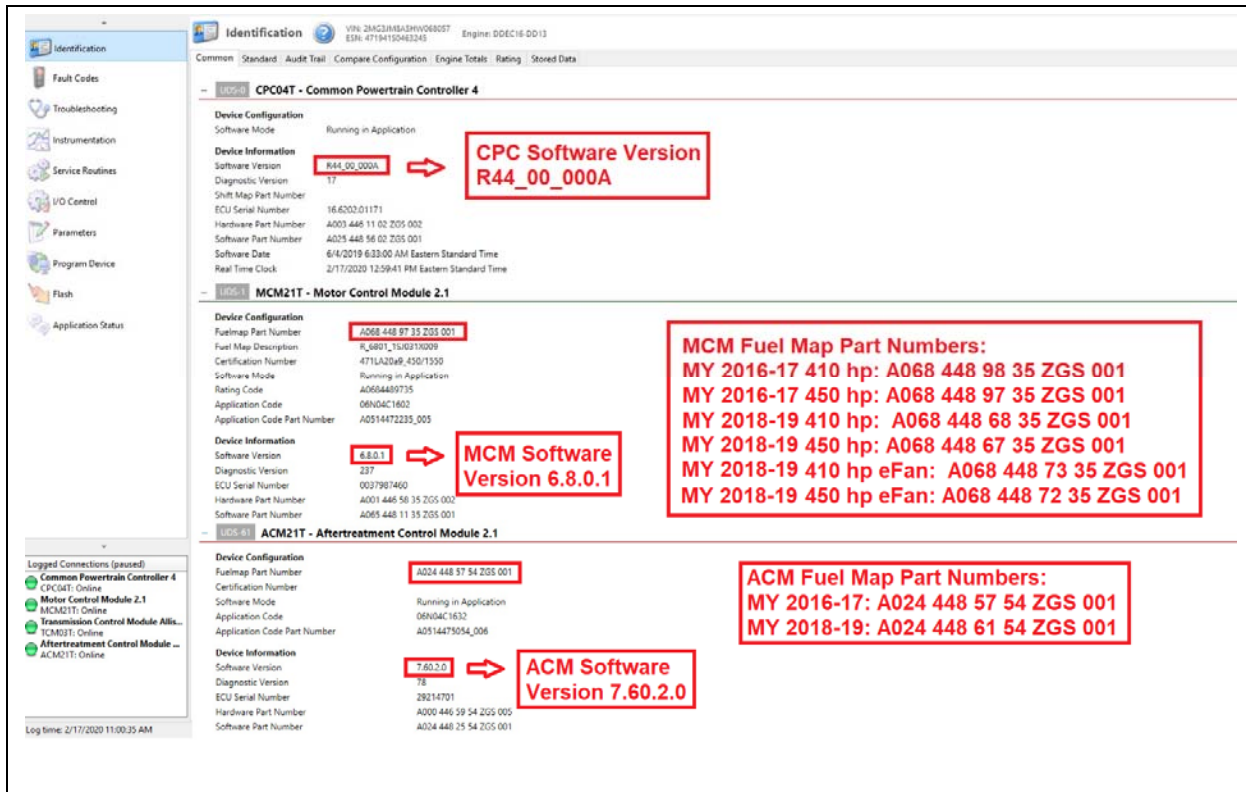

Fig. 2, DiagnosticLink® Identification Screen (CPC/MCM)
4. On the Identification screen, check the current MCM, ACM and CPC software versions. Listed below are the **MINIMUM** software versions. See Figure 2 for an example of the Identification screen.